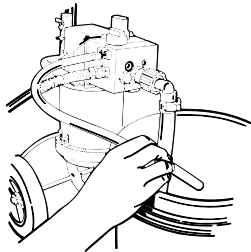

Figure 16 - Place Suction Tube and Return Tube in Paint.
2. Place suction tube and return tube in paint. See Figure 16.